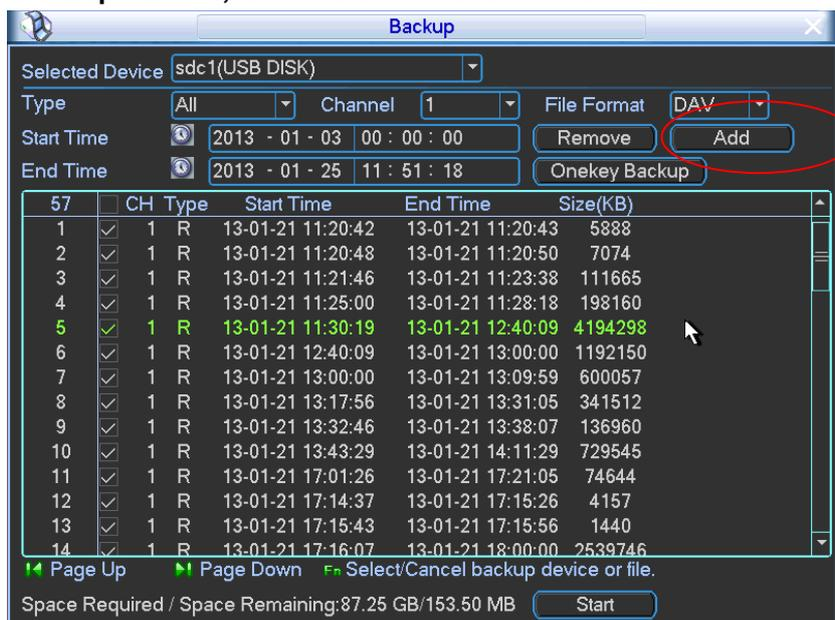

Figure 4-33
- c) Select a backup device and then click Backup button. System pops up the following interface. See Figure 4-33.